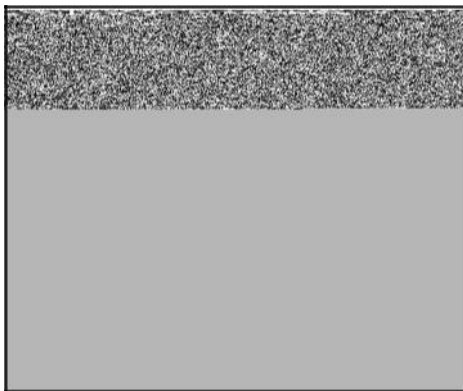

Figure 21
6. Install new inlet needle (**E**, Figure 21) on float (**D**), then position float in carburetor body. Secure with new hinge pin (**C**) and center the pin between the float bosses.